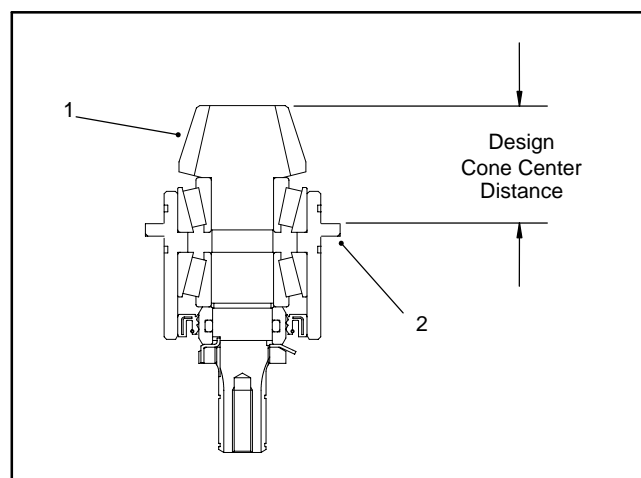

Figure 34
8. Use a depth gauge to measure the distance from the end face of the input shaft/pinion gear to the mating surface of the bearing case. Subtract the "Design Cone Center Distance" from this distance to determine initial shim thickness (Fig. 34).